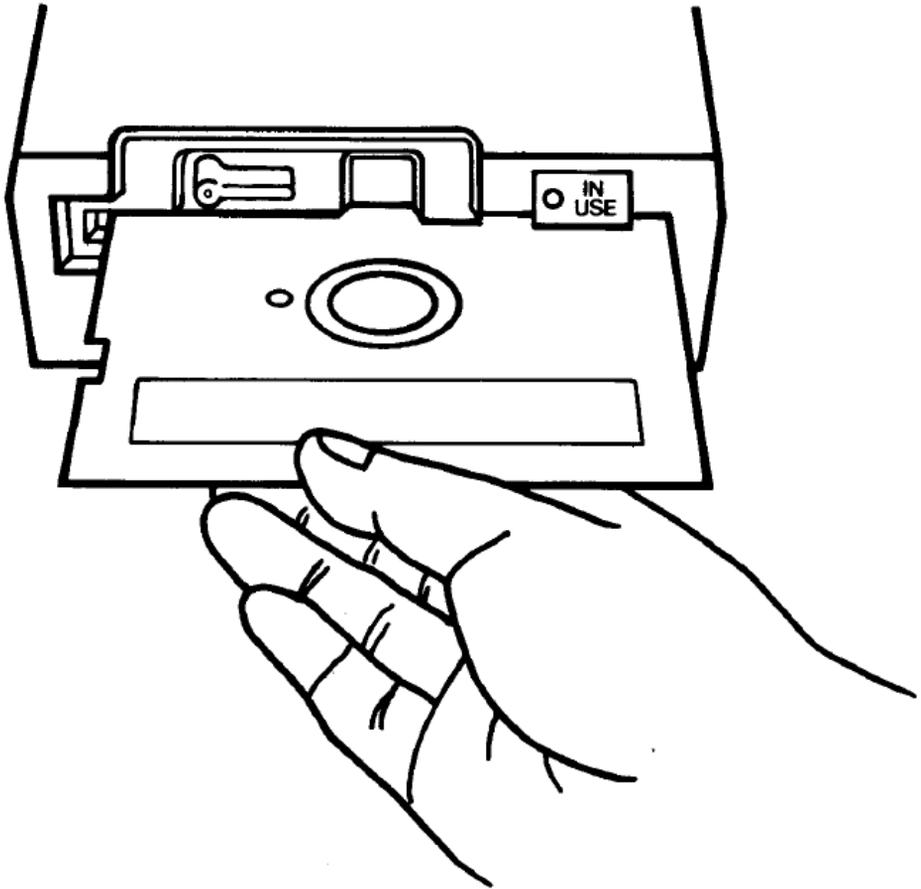

Figure 6 Inserting a disk
| Figure 6 | |
- Step 5.** With the diskette label facing up and the head window towards the slot on the 5VI-707 insert the diskette into the slot (see figure 6).